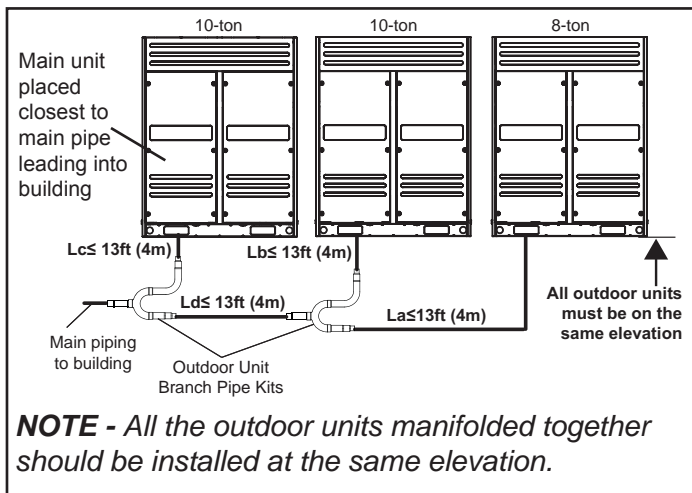

Figure 12. Main/Sub Unit Placement
- A VRF system consisting of more than two outdoor units, must be placed in order from the largest to the smallest capacity. See figure 12.
- The largest capacity outdoor unit must be installed closest to the main pipe leading into the building. See figure 12.
- The largest capacity outdoor unit address is the main unit, while the others are the sub units. See figure 12.